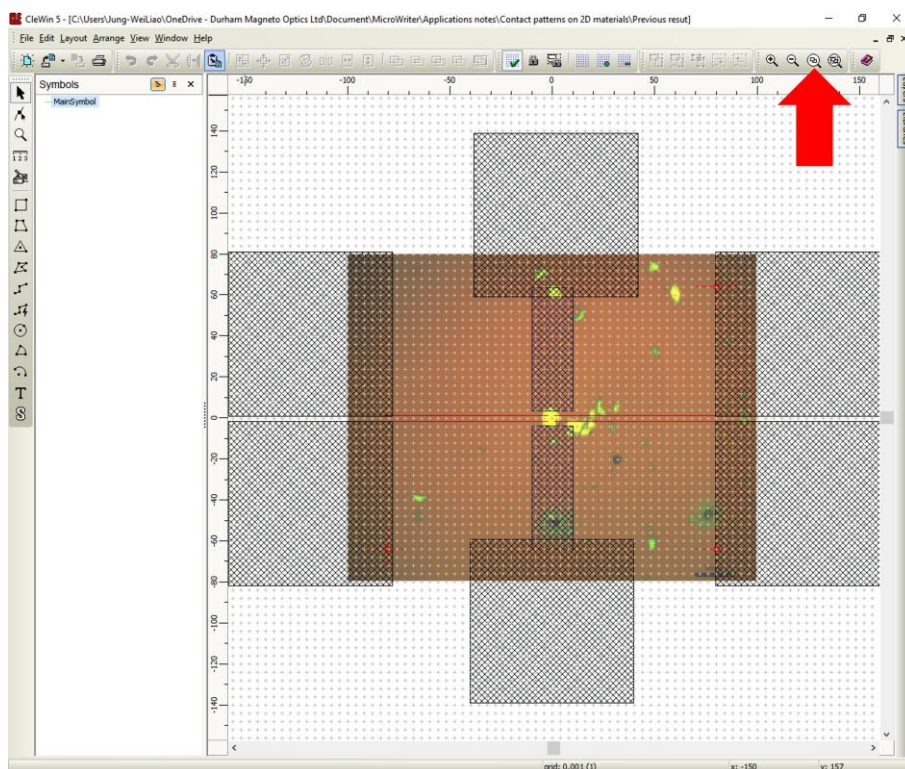

Figure 8 Contact patterns drawn with the bmp file image as the background.
- e. Draw the design patterns and save the file: Click Zoom all (Highlighted in Figure 8) to zoom the image file with the new pixel size. Draw the contacts patterns aligned with the sample (Figure 8). Save the file when finished.